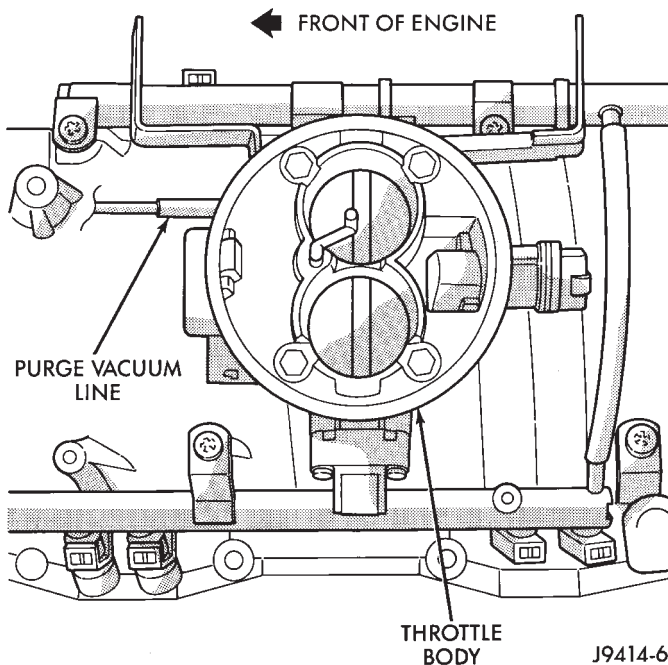

Fig. 62 Idle Purge Line
(5) Disconnect the idle purge vacuum line from fitting at throttle body. This vacuum line is located on the front of throttle body next to the MAP sensor (Fig. 62). Cap the fitting at throttle body after vacuum line has been removed.